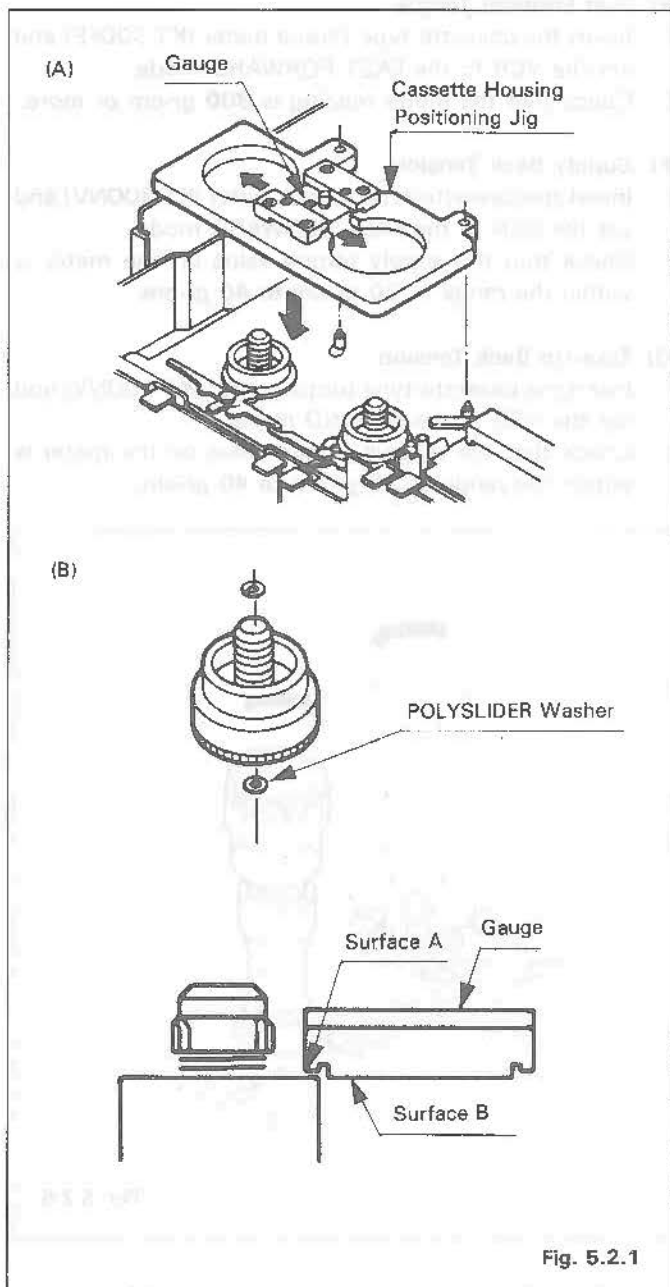

Fig. 5.2.1
1. Mount the cassette housing positioning jig and slide the gauge on the jig in the directions marked by the arrows. (Refer to Fig. 5.2.1.(A))
3. Adjust the reel height so that the reel slides under surface A of the gauge but is stopped by surface B. (Refer to Fig. 5.2.1.(B))